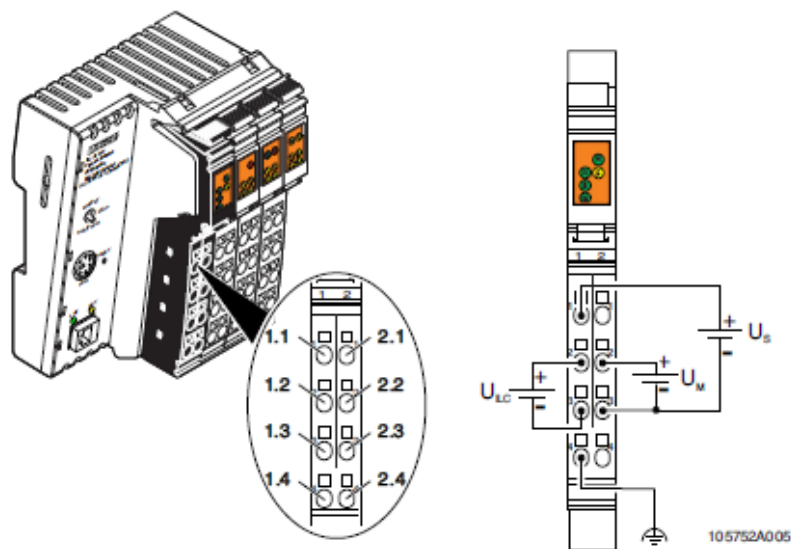

Figure 2-7 Connecting the supply voltages
- Connect the supply voltage to both Inline controllers, as shown in Figure 2-7.